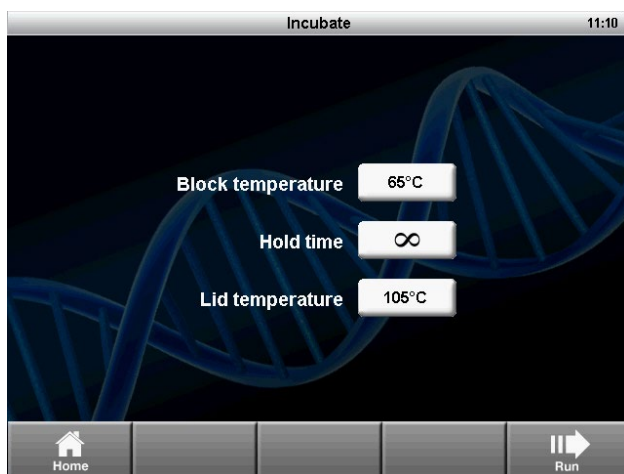

Fig. 20. The Incubate screen.
1. Touch **Incubate** from the home screen. The **Incubate** screen opens (Figure 20).